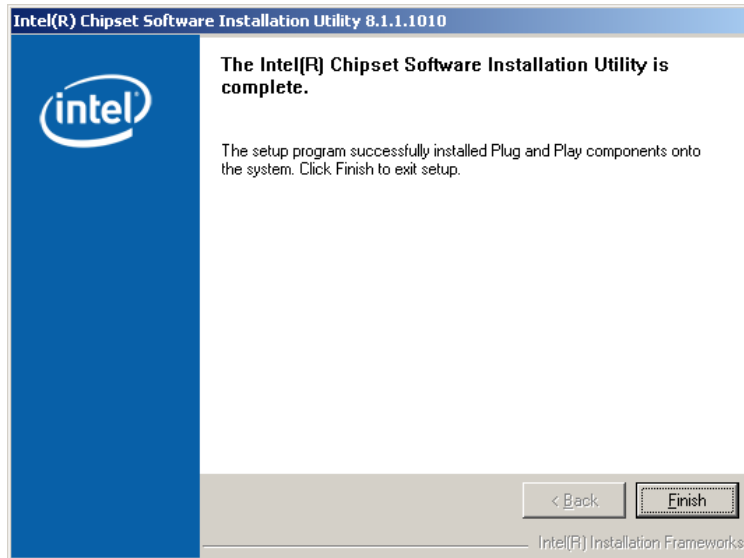

Figure 7-7: Chipset Driver Installation Complete
Step 10: After the driver installation process is complete, a confirmation screen appears (**Figure 7-7**).